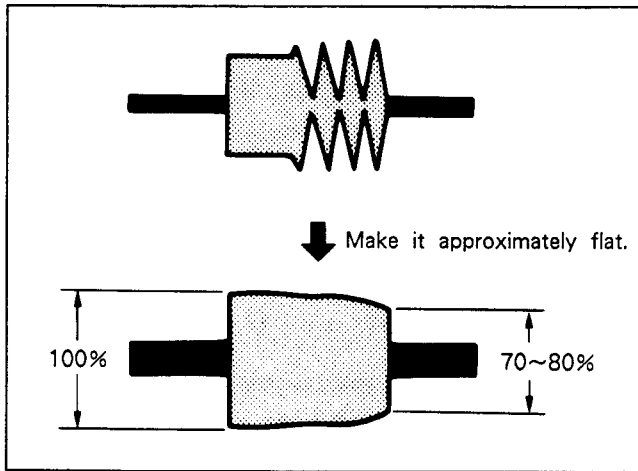

Fig. 7-80.
- 3) Rotate the No.5 guide clockwise to make the RF waveform on the exit side approximately flat. (Fig. 7-80.)